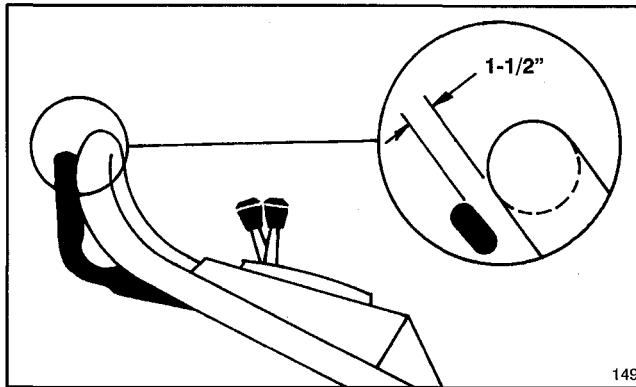

Figure 23
3. CHECK ADJUSTMENT—Slowly pull mower backward while control bar is gradually moved toward handle. Adjustment is correct when rear wheels stop turning and control is about 1-1/2 inches from handle (Fig. 23).